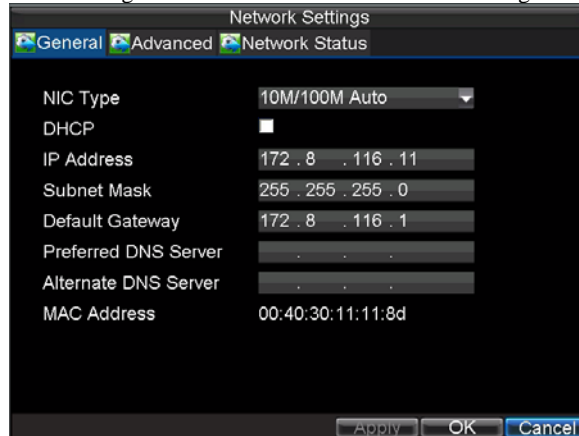

Figure 1. Network Settings Menu
1. Click Menu > Settings > Network to enter the Network Settings menu, shown in Figure 1.